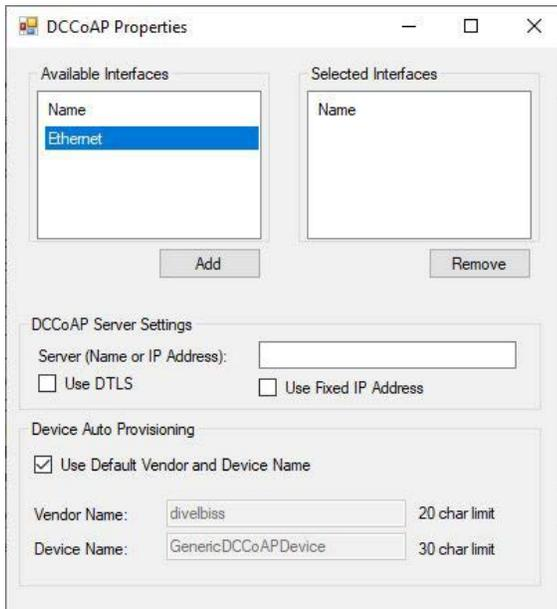

Figure 30-3
- Click **OK**. The *DCCoAP Properties* dialog will open. This dialog is used to configure the DCCoAP communications settings (what the DCCoAP\_CLOUD function block uses). Refer to Figure 30-3. The first section of this dialog is divided into two panes: **Selected Interfaces** and **Available Interfaces**.